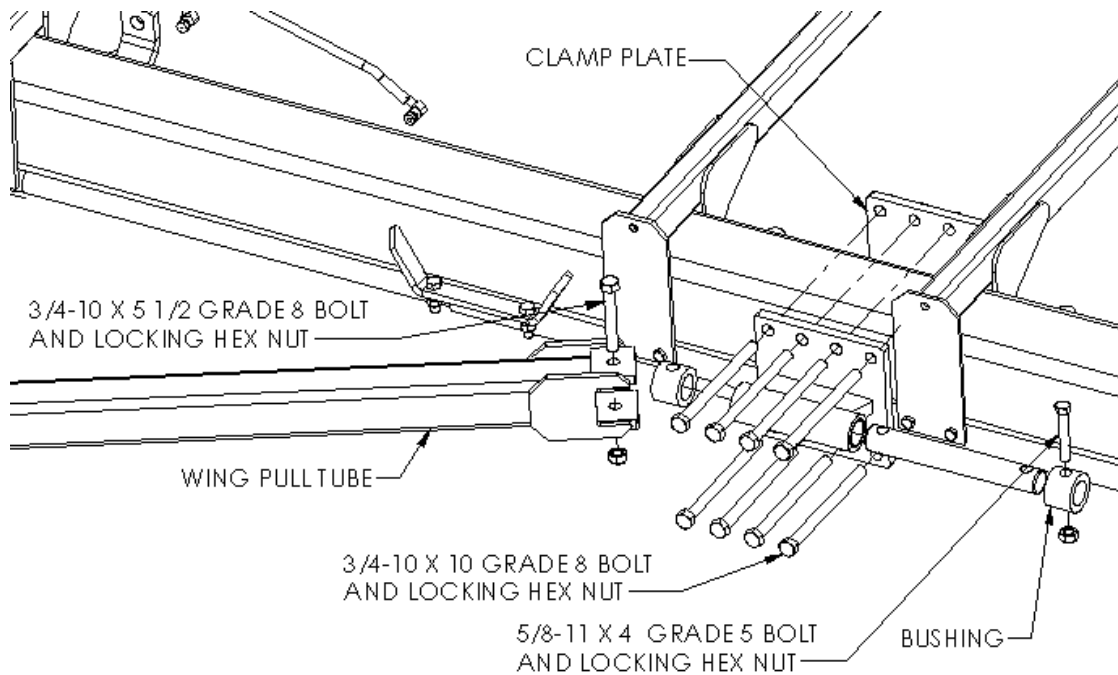

Figure 24
1. Be sure the wing is in line with the center bar. Using the pull tube as a guide, attach the main pull tube anchor assembly to the wing in the approximate position shown in Figure 24. Use eight 3/4-10 x 10, grade 8 bolts and locking hex nuts and a clamp plate. Do not tighten bolts yet. Attach the pull tube to the wing anchor bracket with the 3/4-10 x 5 1/2 grade 8 bolt and locking hex nut and the 5/8-11 x 4 grade 5 bolt and locking hex nut with the bushings and pin as shown. After all components have been assembled tighten all fasteners securely.